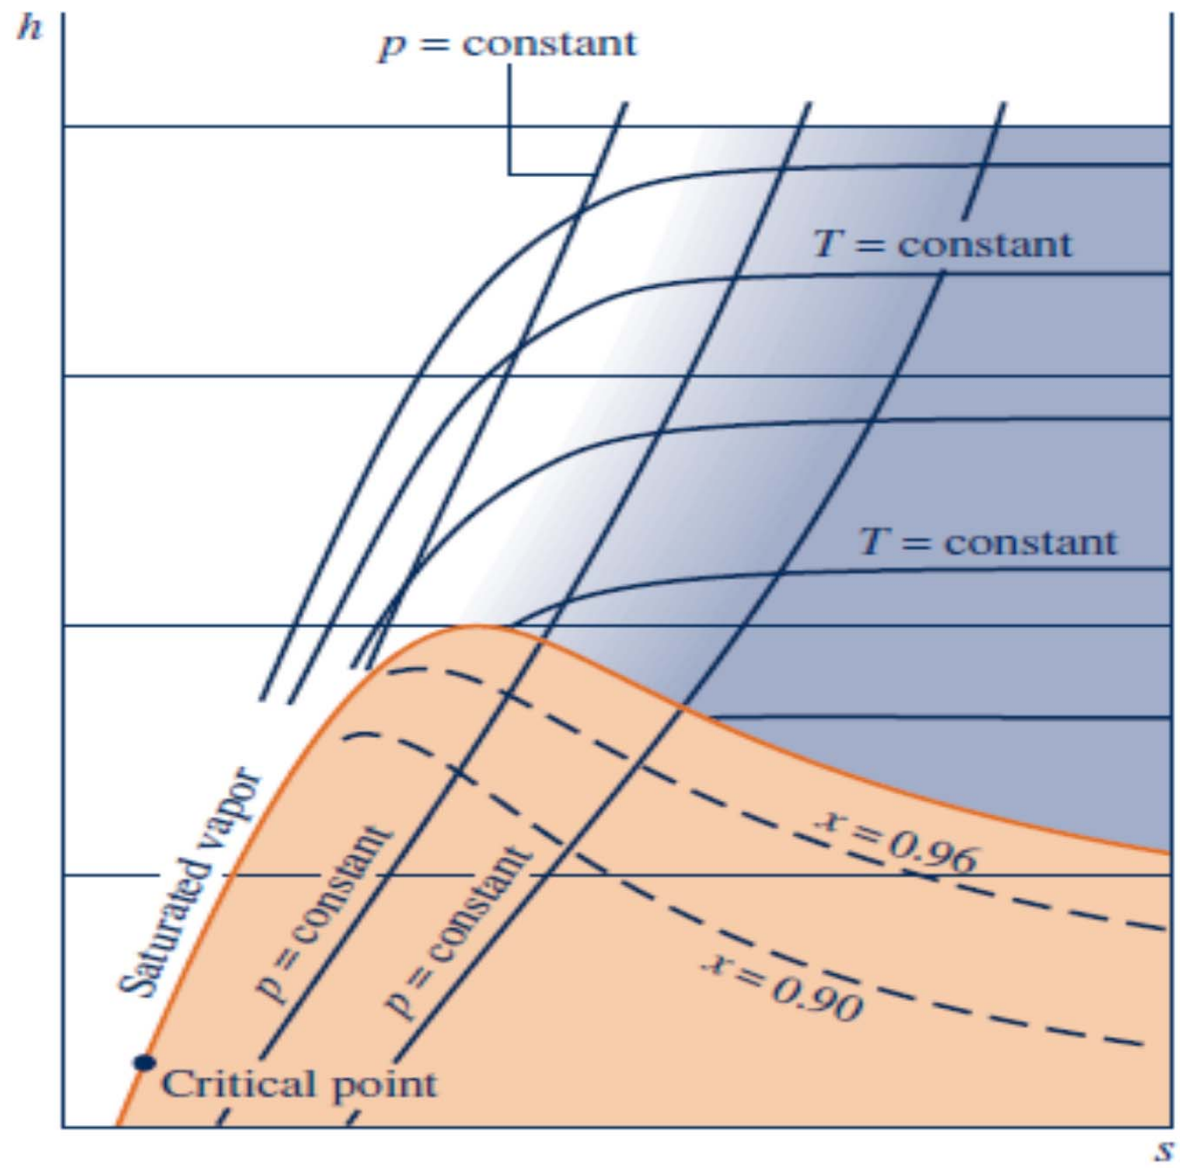

Fig. 3.13: Mollier Diagram
- The h – s diagram is popularly known as Mollier diagram as in Fig. 3.13.
- These superheated vapor states are shown, approximately, as the shaded area in Fig. 3.13.